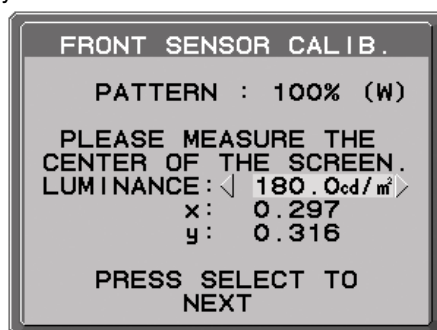

Figure S.3
4. The measurement screen will be displayed. Measure the luminance and chromaticity value of the center of the display by using the external near range color analyzer. Input the measured value to LUMINANCE and chromaticity by using the control keys, then press SELECT (**Figure S.3**).